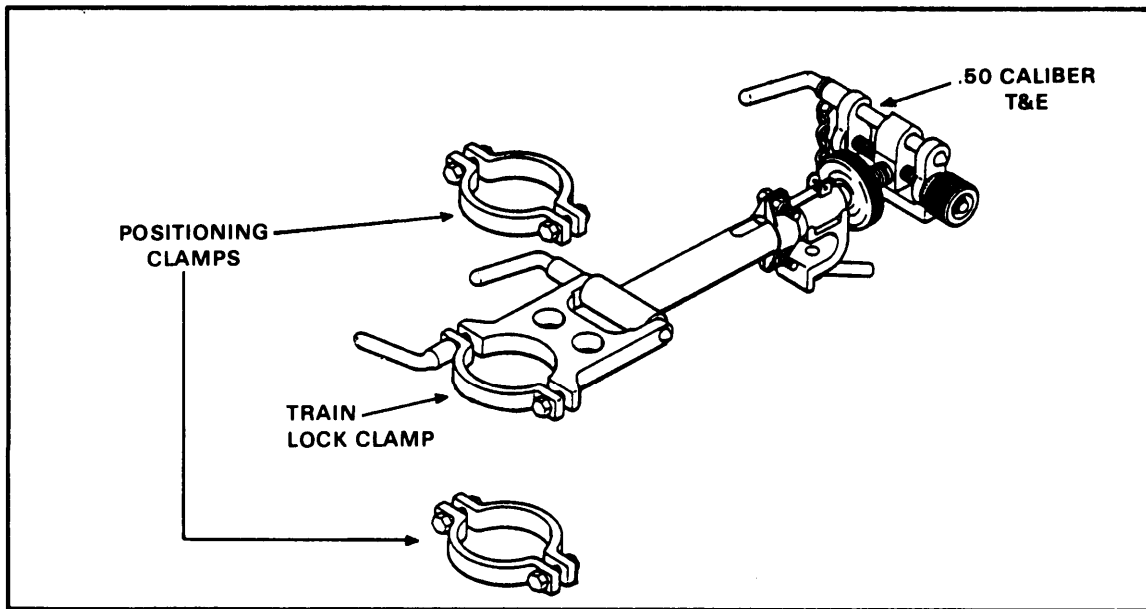

Figure 3-15. Train and elevating assembly.
(2) Train and elevating assembly. This assembly secures the MK 64 MOD 7 gun cradle to the M4 pedestal or HMMWV weapon platform pedestal and allows mechanical fire control adjustments. The lower end of the train and elevating assembly is attached to the pedestal by a train lock clamp. The clamp may be released or locked in position by a train lock handle. Two positioning clamps are supplied to prevent vertical movement of the train lock clamp on the M4 pedestal. When used on the HMMWV weapon platform pedestal, only one clamp is needed above the train lock clamp. The upper end of the train and elevating assembly is a standard caliber .50 T&E mechanism. It is attached to the lower rear holes in the M4 cradle by a retaining pin (Figure 3-15).